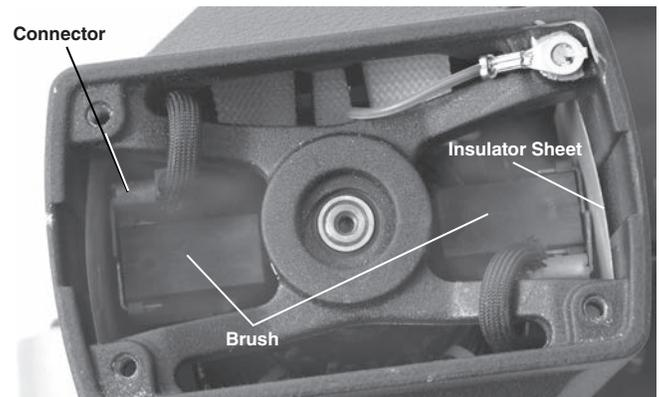

Figure 28 - Brush Placement - Motor Cover Removed
3. Using a pair of pliers, pull the motor brushes straight out. Detach the connector. (See Figure 28)